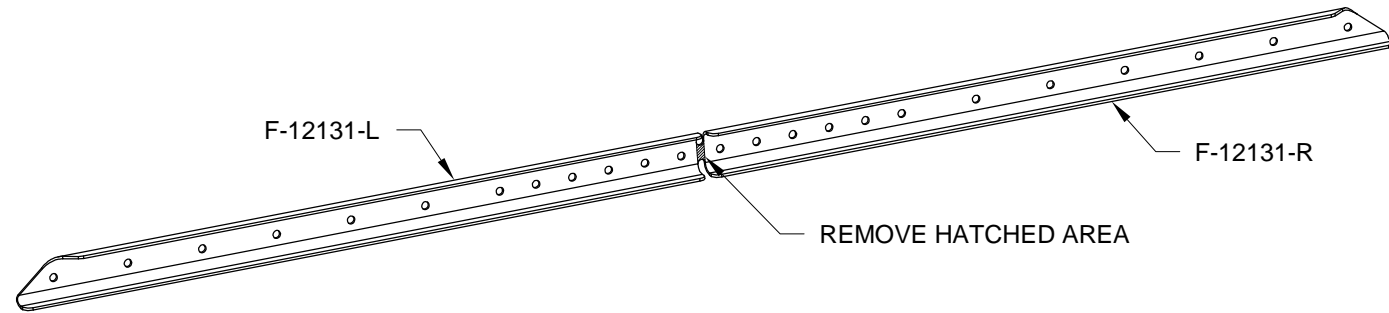

FIGURE 1: SEPARATING F-12131
Step 1: Separate and deburr the parts depicted in Figures 1 through 4. Remove the hatched areas as shown.